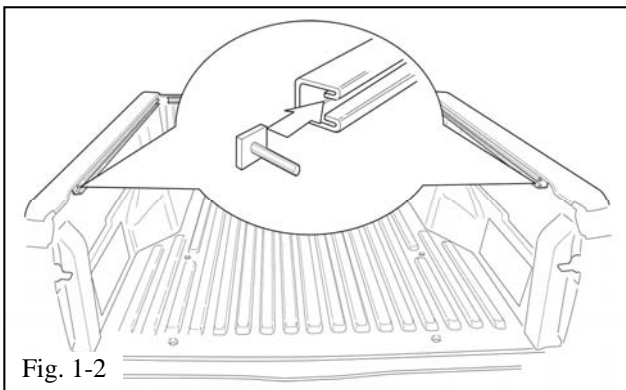

Fig. 1-2
- (b) Slide one clamp plate into each side rail (Fig. 1-2).